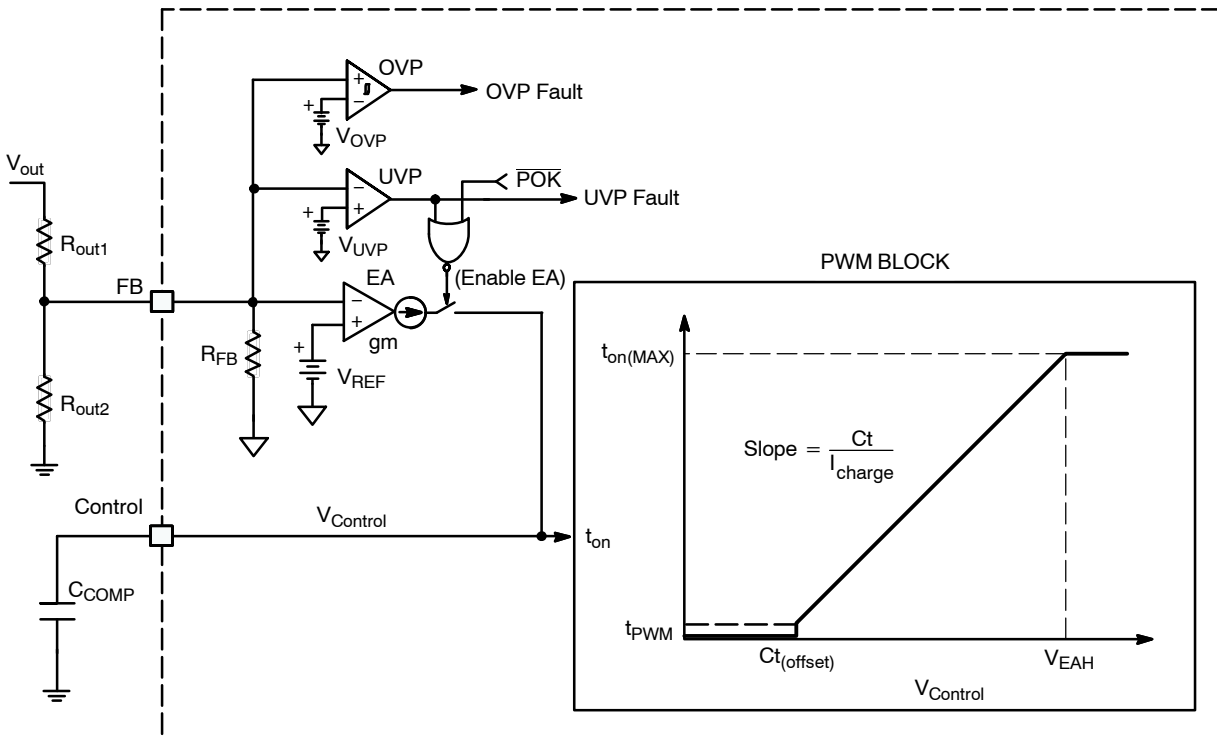

Figure 29. Error Amplifier and On Time Regulation Circuits
The NCP1608 regulates the boost output voltage using an internal error amplifier (EA). The negative terminal of the EA is pinned out to FB, the positive terminal is connected to a $2.5 \text{ V} \pm 1.6\%$ reference (V_{REF}), and the EA output is pinned out to Control (Figure 29).